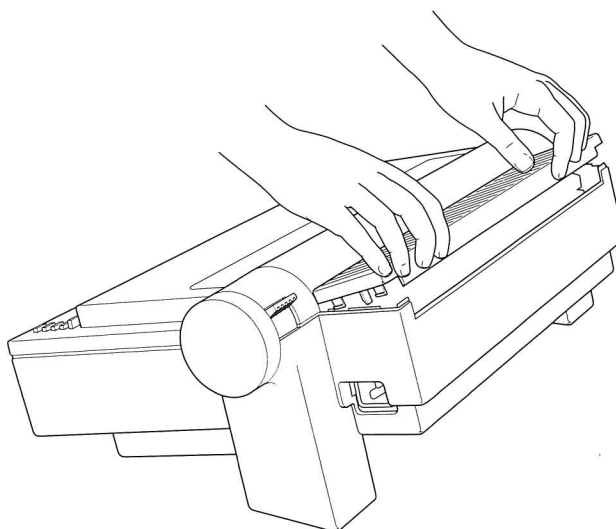

Figure 2-10 Removing the back cover
2. **Lift up and remove the back cover** to get to the tractors, the devices that pull paper into the printer. Set the cover aside. (See Figure 2-10.)